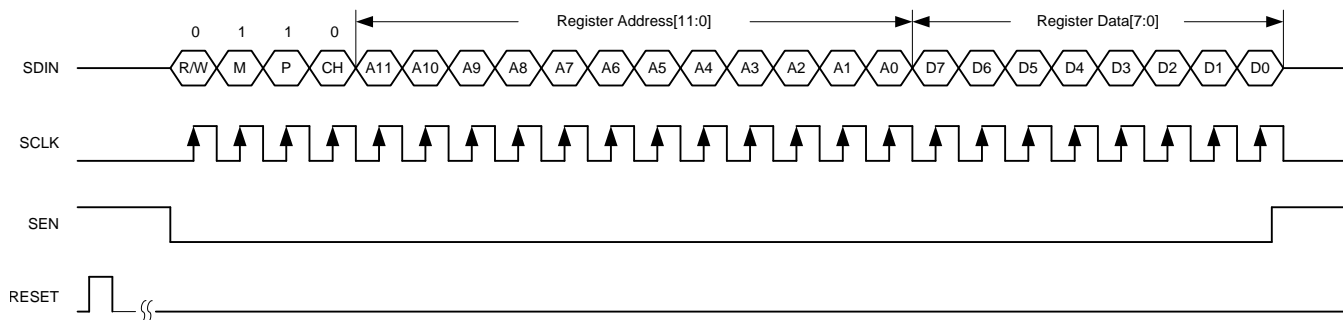

Figure 69. JESD Serial Register Write Timing Diagram
3. Set the M and P bits to 1, select channel A (CH = 0) or channel B (CH = 1), and write the register content as shown in Figure 69. When a page is selected, multiple writes into the same page can be done.